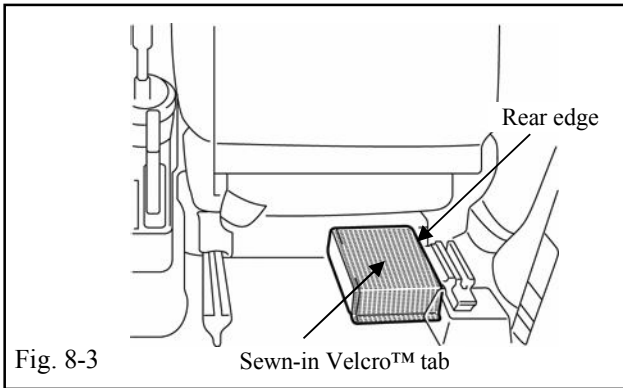

Fig. 8-3
- (g) Press the sewn-in Velcro™ tab on the top underside of the cover firmly to the satellite receiver. (Fig. 8-3).